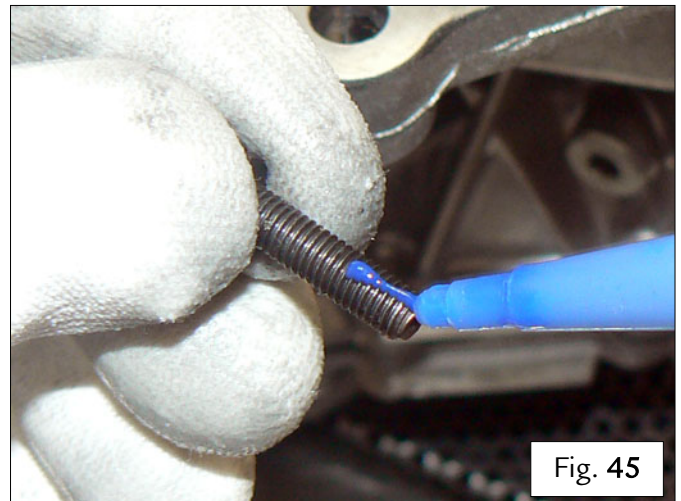

Fig. 45
- Select new fastener screws for the CCP and apply **Loctite 243** to the threads – Fig. 45.